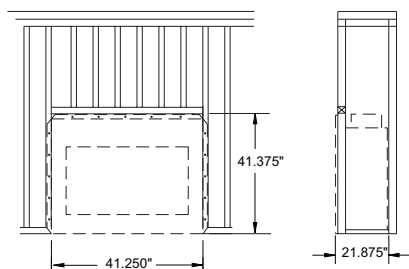

Figure 1 - Framing Dimensions
1. The location must allow for proper clearances (see Figures 1 and 2).
1. Frame opening for fireplace using the dimensions shown in Figures 1 and 2.